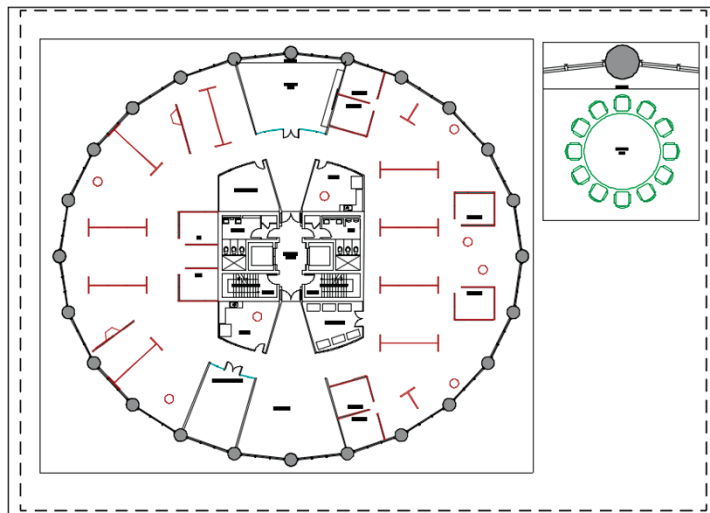

FIGURE 13.22 Furniture is visible in the viewport on the right but not in the left viewport, whose layer properties have been overridden.
- Double-click on the layout outside the viewport to switch back into paper space. The furniture and furniture systems disappear from the current viewport, but the Conference Room round table is still visible in the viewport on the right of Layout2 (see Figure 13.22). Close the Layer Properties Manager.